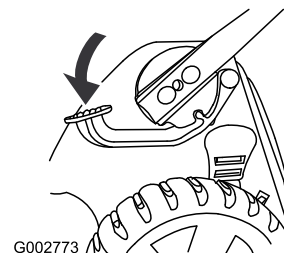

Figure 48
1. Step on the foot pedal and hold it down (Figure 48).